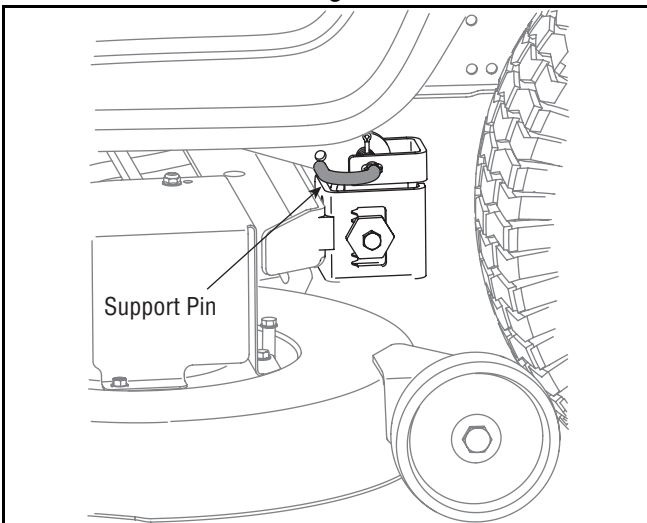

Figure 15
- Looking at the cutting deck from the left side of the tractor, locate the deck support pin on the rear left side of the deck. See Figure 15.